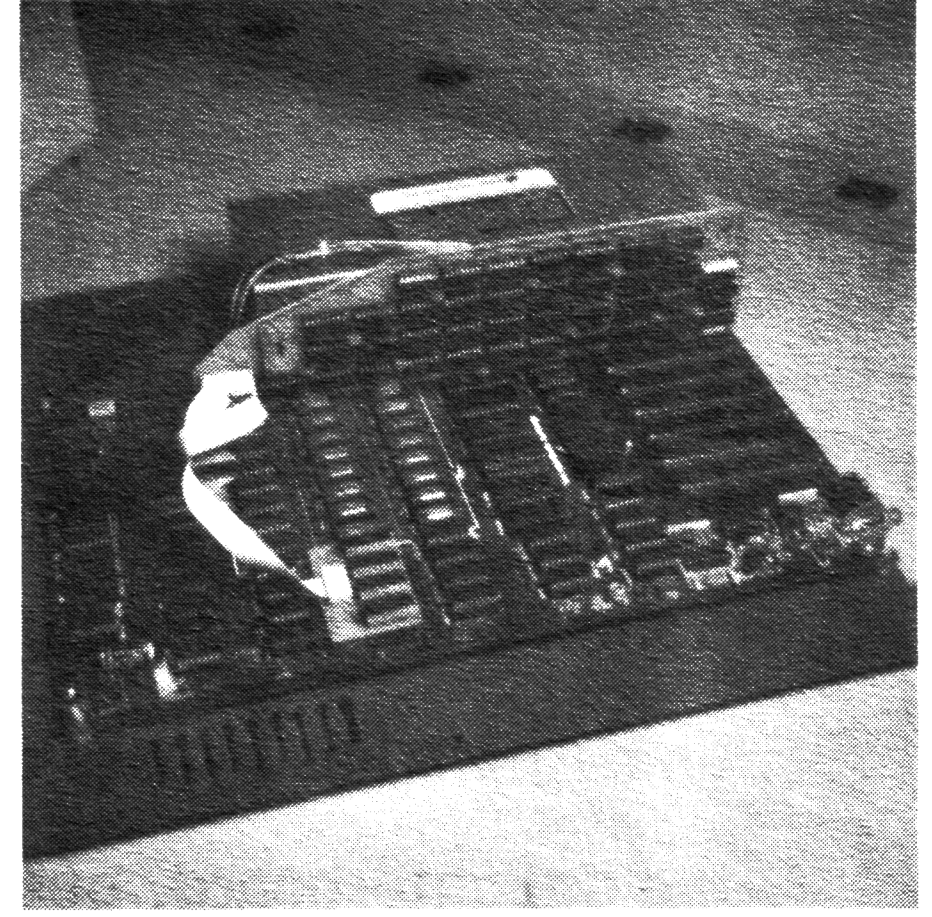
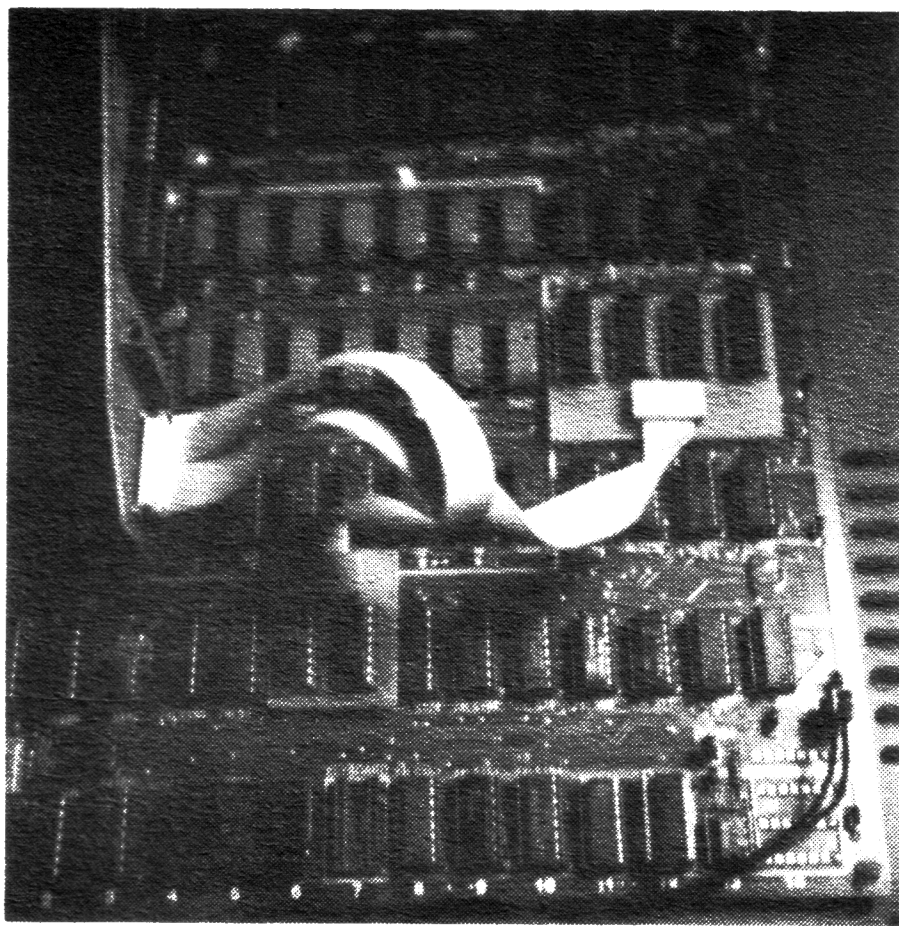

FIGURE 6
FIGURE 7
5. Insert the DVM board into any convenient peripheral slot. Slot 7 provides short access to the Apple II text pin. However, if an eighty character video board is installed, the cable assembly to the eighty character board must be folded back. The DVM is shown inserted into Slot 1 in Figure 6. The cable assembly connecting the daughterboards may now be inserted into the DVM board shown in Figure 7. Be careful to insert the cable correctly onto the 16 pin header provided. There is no danger of damage, however the operation of the board is unpredictable.